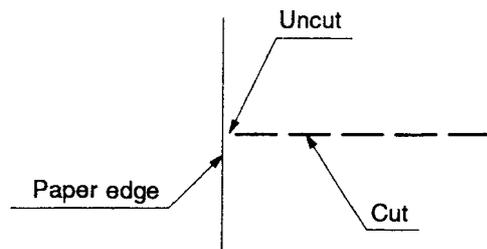

Figure 1-14. Perforations 2
- Horizontal perforations must have an uncut part in each end of the paper (Refer to Figure 1-14.).